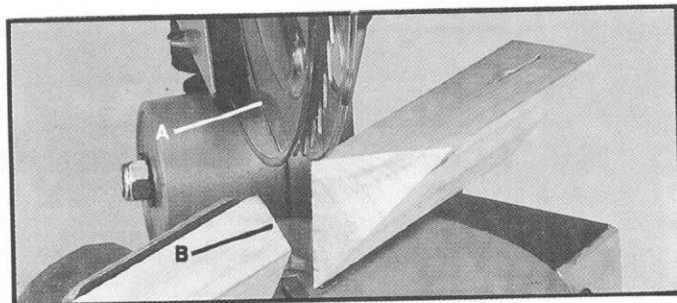

Fig. 58
When attaching the filler block to the fence make sure there is clearance between the edge (A) of the movable blade guard and the edge (B) of the filler block, as shown in Fig. 58. This clearance between the blade guard and the filler block must be at both the right and left miter angles.